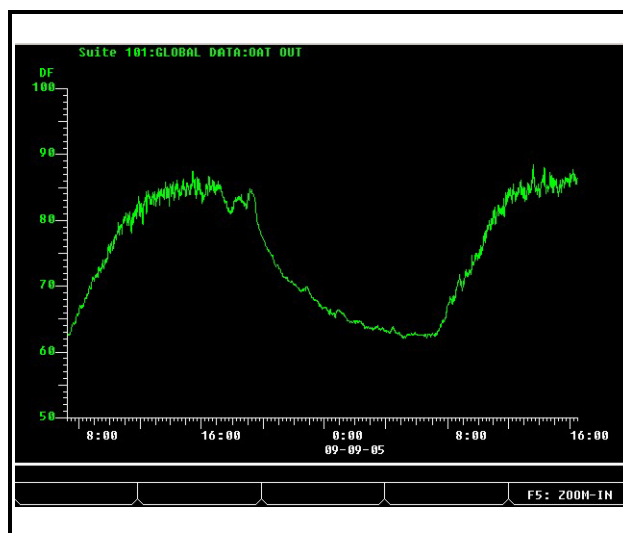

Figure 12-28 - Sample Graph View
- **F3** GRAPH - Displays logged data in a graph format (see *Sample Graph View Figure 12-28*).